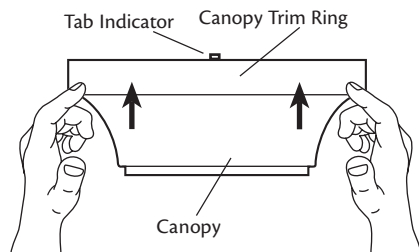

Figure 19 - Removing the canopy trim ring
1. Locate the tab indicators, small bumps on top of tabs. Refer to Figure 19.
2. To remove the canopy trim ring, press firmly on opposite sides of the ring towards the canopy as shown in Figure 19. The tabs will flex out releasing the trim ring from the canopy.